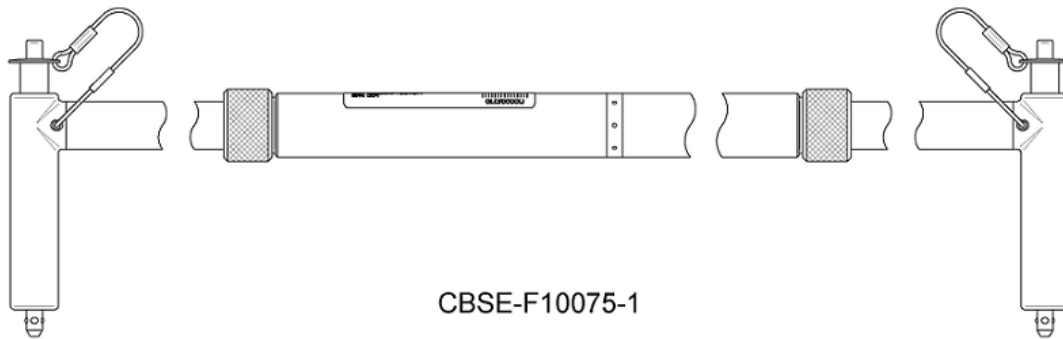

Figure 1. Glacier IVA Handle.
2. Connect Glacier IVA Handle diagonally to front face of Glacier at locations marked IVA Receptacle (two of four). Refer to Figures 1.